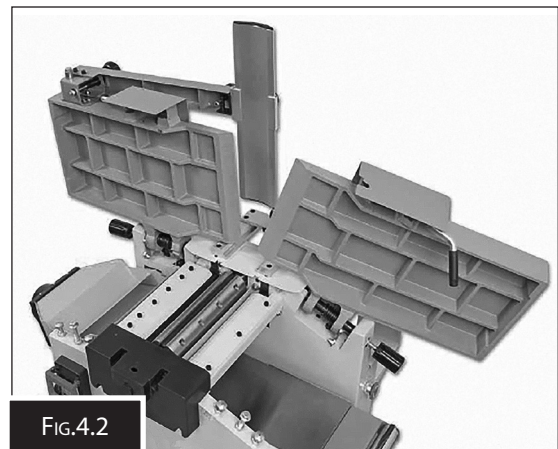

FIG.4.2
1. Remove the fence assembly. Unlock the surface table and raise them to the upright position. (Fig.4.2)